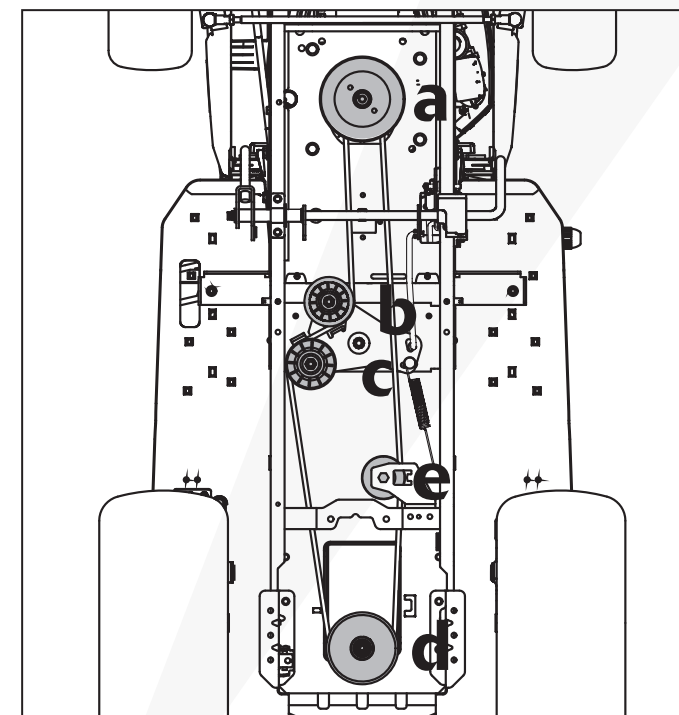

Fig. 32
2. Remove the drive pulley assembly (a, Fig. 32) by removing the bolt that fastens it to the engine output shaft.
3. Remove the two pulleys (b and c, Fig. 32) by removing the nuts that fastens them to the mounting bracket.
4. Slip the belt off the transmission pulley. (d, Fig. 32)